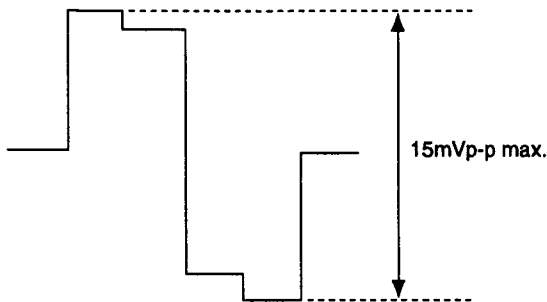

Fig. 5-11
3. Connect the probe of an oscilloscope to IC404 ④ PIN or TP402.
5. Adjust **SUB PHASE** so that the output waveform will be minimum (15 mVp-p or less). (Fig.5-11)
4. Adjust **SUB PHASE** so that the output waveform will be minimum (15 mVp-p or less). (Fig.5-11)